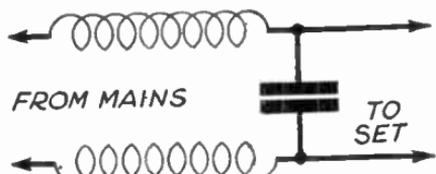

FIG. 286.—A Cure for H.F. Interference via the Mains.
H.F. Interference via the Mains. It sometimes happens that most of the noise arrives via the mains, and not down the aerial. This can be tested by disconnecting the aerial. If the noise continues then, one can be fairly certain that the mains are picking up most of the unwanted impulses. Try a good H.F. choke in each lead with a fixed condenser across them, as in Fig. 286. A 100-mfd. condenser (or larger in the case of D.C. mains) will be suitable.